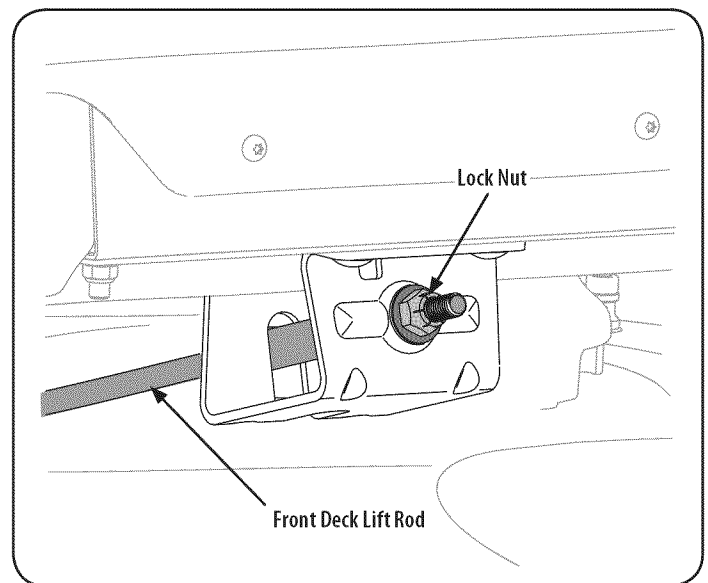

Figure 25
5. Using a wrench, raise or lower the front of deck by turning lock nut on the front deck lift rod. See Figure 25.